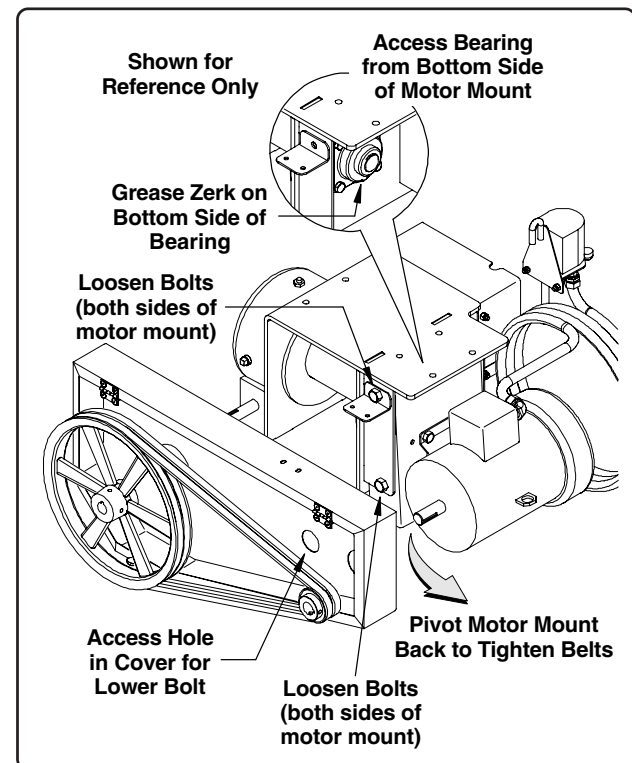

Fig. 18
2. The bearing can be accessed from the bottom side of the winch motor mount frame (See Fig. 18).
3. To adjust belt tension, loosen the four bolts securing the motor mount plate (the lower motor mount bolt is accessible through the opening in the belt guard cover, See Fig. 18).